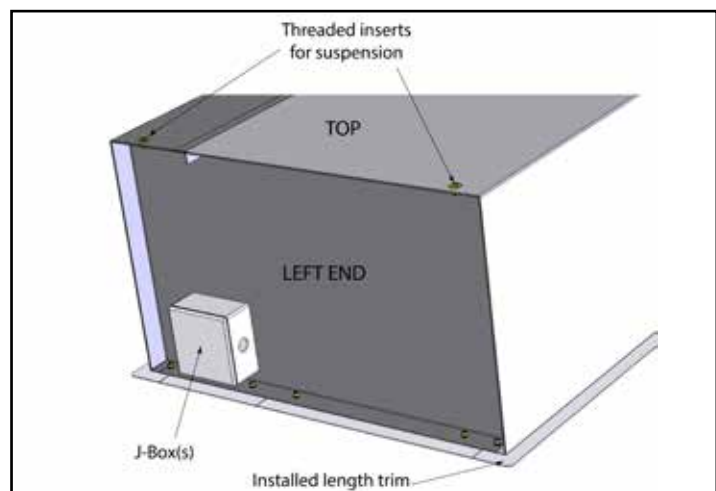

Figure 3
- A. The Architectural Recessed 12/16 series air curtain enclosure is equipped with four 5/16"-18 threaded inserts on the top of the unit for suspended mounting. **See Figure 3.**
See Figure 3.